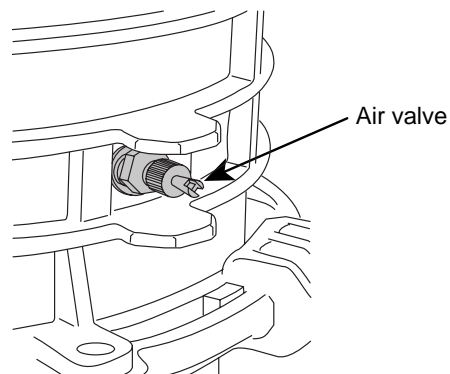

Figure 17
1. Apply up to 10 psi (689 milibars) maximum of air pressure to the closure through the fitted air valve. Test all of the cable seals and the endcap to closure seal for leaks using a leak solution. At the conclusion of the test, reduce the closure air content to zero (Figure 17).